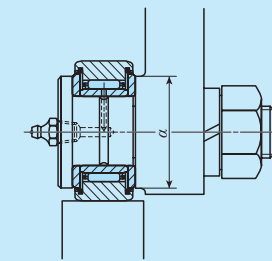

Fig. 1 Height of side surface of mounting part
- Mount the mounting part of the shield/sealed type according to the a dimensions in the dimension table.(See Fig. 1)